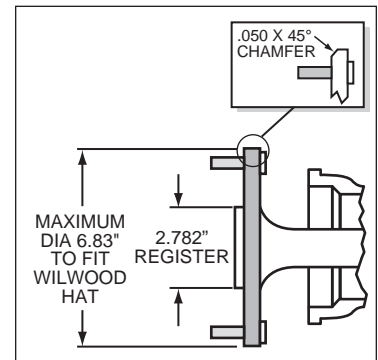

Figure 3. Axle Flange Maximum Dimension
- Maximum axle flange diameter must be no larger than 6.83" w/.050" x 45° chamfer (see Figure 3).